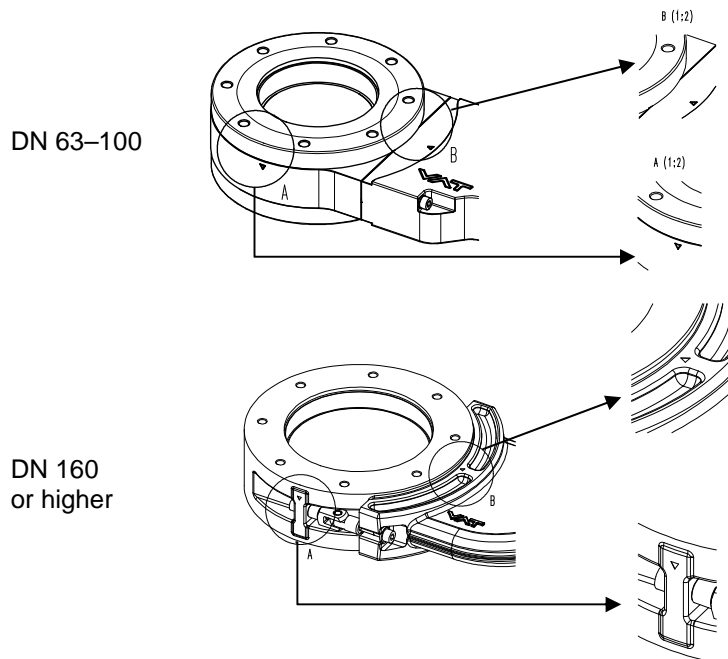
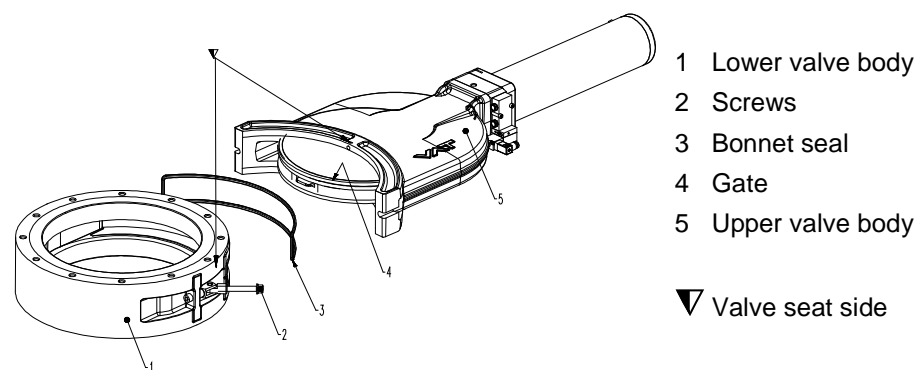

Figure 6-3
Figure 6-4
The numbers in brackets ( ) refer to «Figure 6-4» on page 19.
15. Install new bonnet seal (5).
Make sure to have gate (2); see «Figure 6-2»; on seat side «∇»; see «Figure 6-4» on page 19.
The tips of the triangles «∇» of both body parts must face each other; see «Figure 6-3 » on page 19 and «Figure 6-4» on page 19.
19. For DN 160 or higher: Swing back both screws (2); see «Figure 6-4».
20. Tighten the screws (2) with the appropriate torque specified in chapter «6.2 Tightening torque specifications».